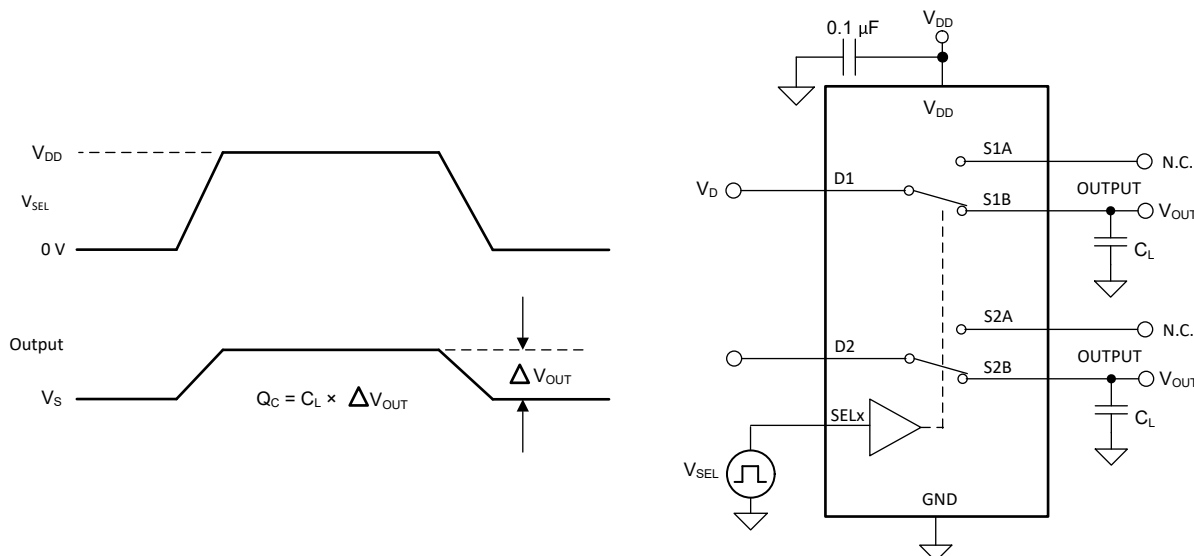

Figure 7-11. Charge Injection Measurement Setup
Any mismatch in capacitance results in a charge injected into the drain or source during the falling or rising edge of the gate signal. The amount of charge injected into the source or drain of the device is known as charge injection, and is denoted by the symbol  $Q_C$ . Figure 7-11 shows the setup used to measure charge injection from Drain (D) to Source (Sx).